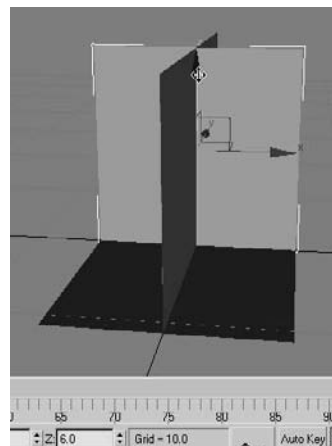

Figure 5.3
- Move the Front View box up six units in the Z-axis to raise it so the bottom edge is directly on the Home Grid, as shown in Figure 5.3. Switch all the viewports to Smooth & Highlights (F3).